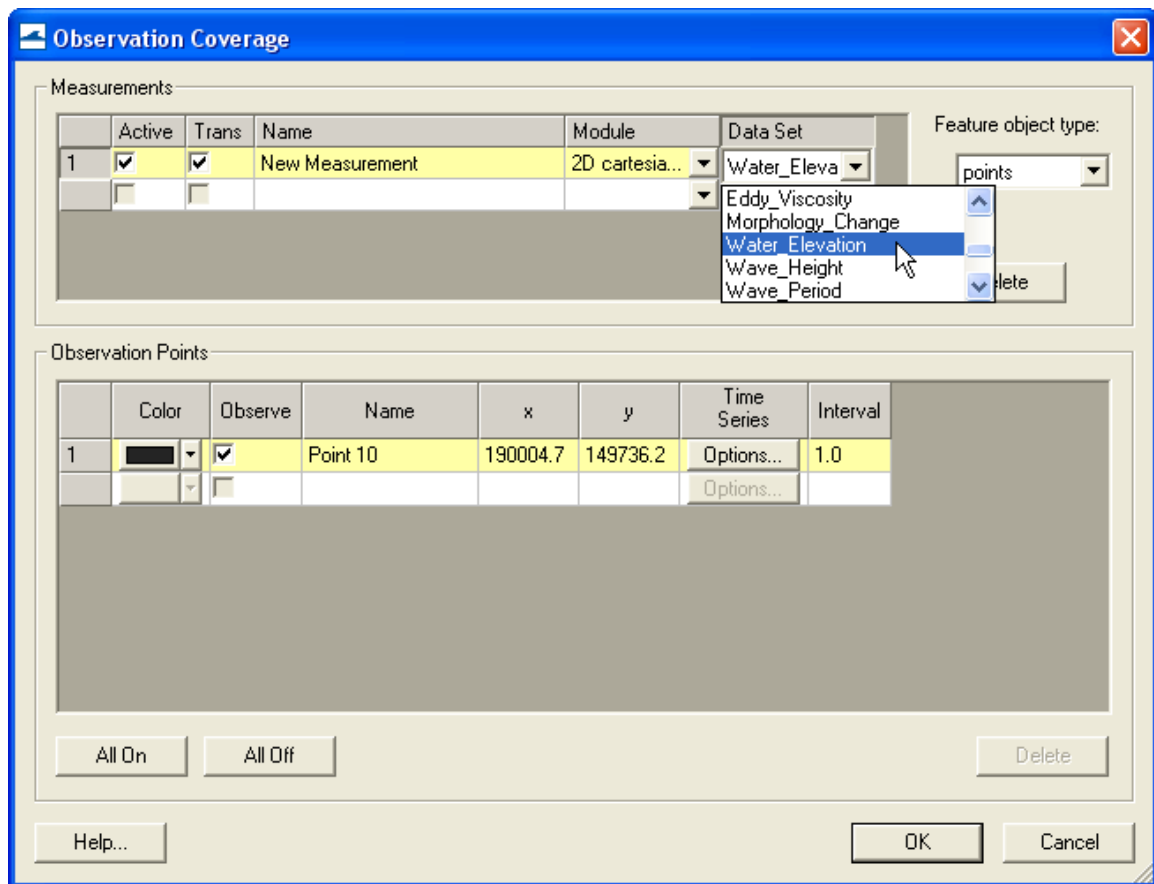

Figure 8.1.3. Setting up the measured time series data within the Observation Coverage window.
3. Select and right click on the *Feature Point|Node Attributes*, and the *Observation Coverage* window will pop up (Figure 8.1.3). Under *Measurements*, select the drop down menu under *Module*, and change it to *2D Cartesian*. Change the *Dataset* to *Water Elevation*. Select *Trans* (transient data), and the *Time Series* menu for the observation point and select *Options...*